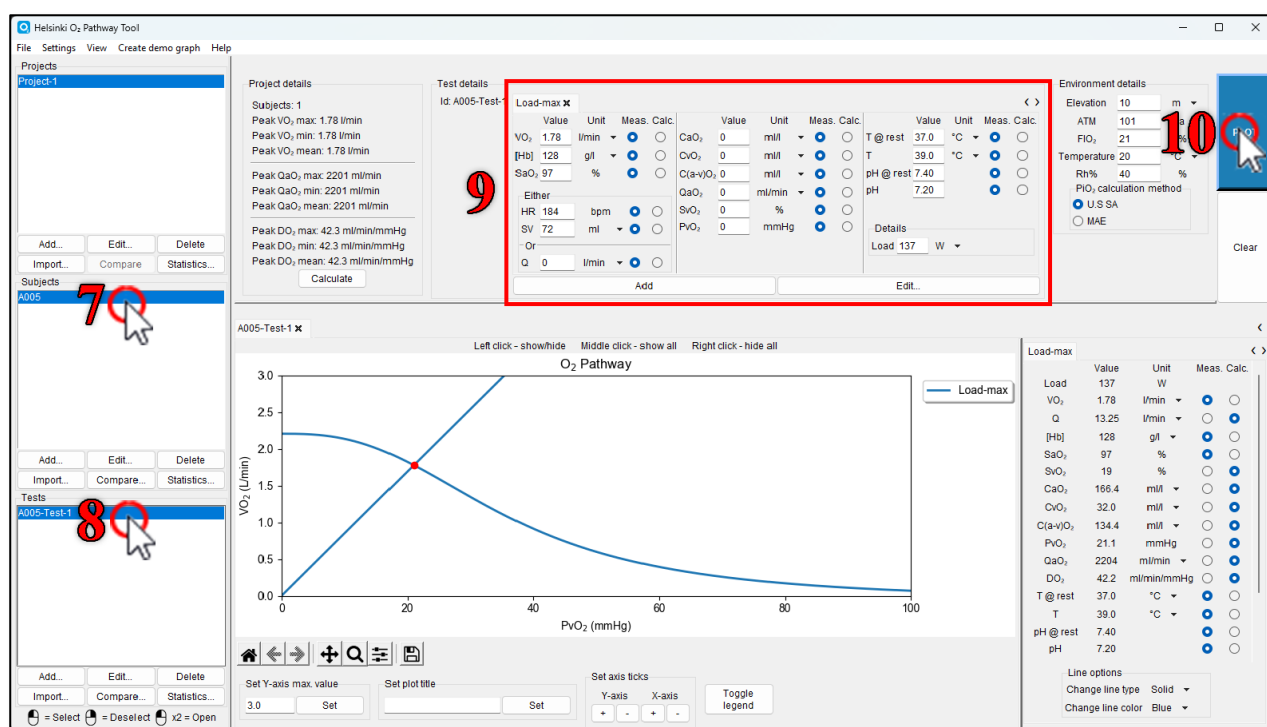

Figure 42
7. Click a subject to make it active in the side panel (Figure 42).
8. Double left click on a test in the side panel's test module (Figure 42).
9. The imported data is shown in the test details module (Figure 42).
10. Click the "Plot" button and the figure is created (Figure 42).